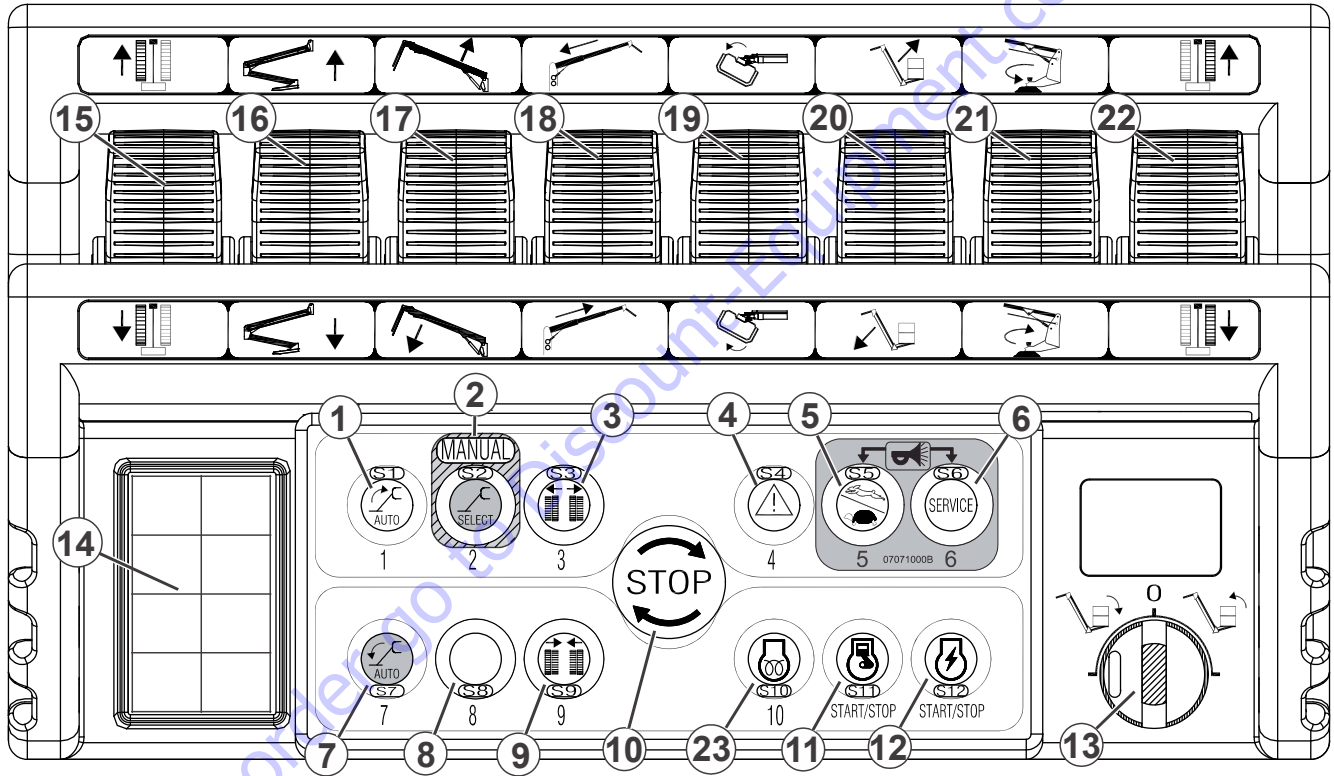

Figure 3-6. Platform/Remote Control Station
See Figure 3-6., Platform Control Console for remaining items.
At machine start-up and during machine operation the main LCD display screen (item 15 - Figure 3-6.) is activated. There are eight (8) display positions which indicate machine status during various stages of operation.